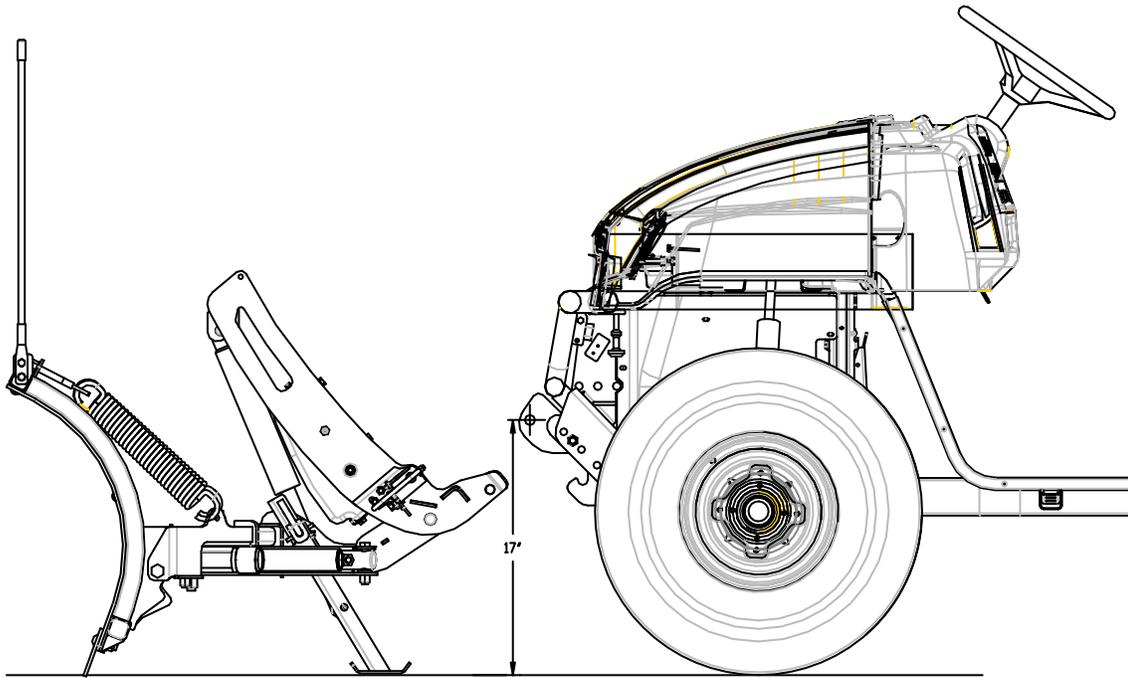

Figure 2
2. Align top holes in sides of Skid Plate Assembly (75) with holes in Bumper. Using 3/8"-16 X 2-1/4" Hex Head Cap Screws (F) and 3/8"-16 Nylon Lock Nuts (B), attach Skid Plate Assembly (75) to Bumper. Leave finger tight.
3. Hold Skid Plate Assembly (75) flush with Bumper and mark four bottom holes. While still holding Skid Plate Assembly (75) flush with Bumper, mark two front slots on the inside of slot. Remove Skid Plate Assembly (75) and drill all six holes to 7/16".
4. Attach Driver Side and Passenger Side Mount Brackets (62A & 62B) to Rear Bracket Assembly on the inside holes using four 3/8"-16 X 1" Hex Head Bolts (A) and four 3/8"-16 Nylon Lock Nuts (B). Leave finger tight.
5. Attach Rear Bracket Assembly (63) to Frame Assembly using two M10-1.5 X 20 MM Hex Head Bolts (G) and two 3/8" Flat Washers (D). Fully tighten Rear Bracket Assembly (63) to Frame Assembly.
6. Mount Skid Plate Assembly (75) to Bumper, Rear Bracket Assembly, and Frame Assembly using six 3/8"-16 X 1" Hex Head Bolts (A), two 3/8"-16 X 2-1/4" Hex Head Bolts (F), and eight 3/8"-16 Nylon Lock Nuts (B). Fully tighten all parts.
NOTE: The proper height adjustment for the Pushbeam (62) is approximately 17" from the ground to the center of Pushbeam (62) pin-receiving hole (See Figure 2) for Plow System.
7. Using four 3/8"-16 X 1" Hex Head Bolts (A), four 3/8"-16 Nylon Lock Nuts (C), four 1/2"-13 X 1-1/2" Hex Head Bolts (D), and four 1/2"-13 Nylon Lock Nuts (E), mount Pushbeam Assembly (62) to Skid Plate Assembly (75).